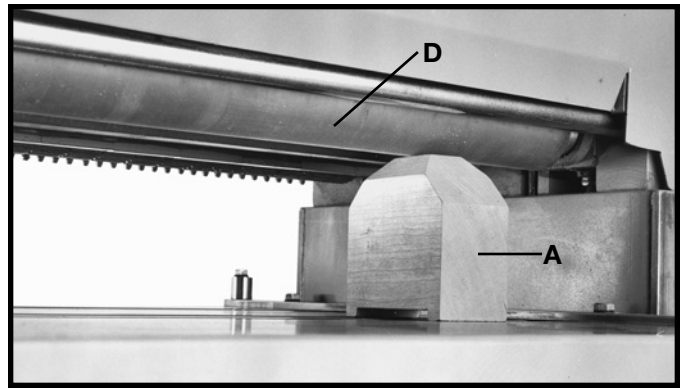
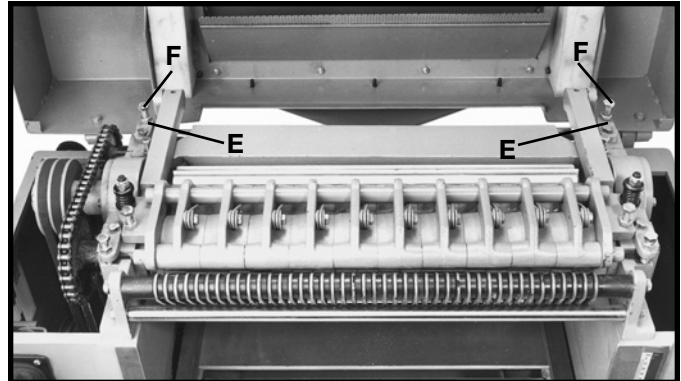

Fig. 44
Fig. 45
- Place gage block (A) Fig. 44, under outfeed roller (D). The bottom of roller (D) should just touch gage block (A).
- If an adjustment is necessary, loosen locknut (E) Fig. 45, and turn adjustment screw (F) until the outfeed roller just touches the top of gage block (A) Fig. 44.
- Tighten locknuts (E) Fig. 45 after adjustments are completed.